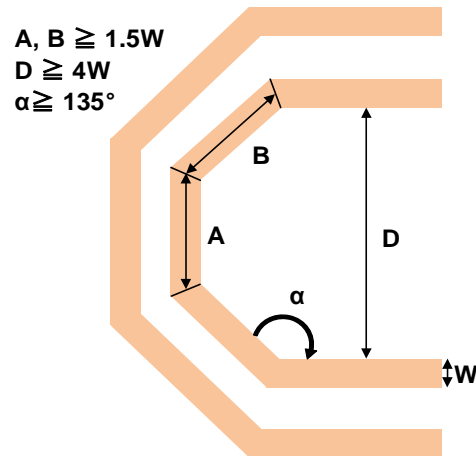

Figure 2. Avoid right angle turn
- Avoid right-angle turns (Figure 2) and minimize the number of vias within 2 or less on the high-speed traces to prevent impedance discontinuity and degrade signal integrity.